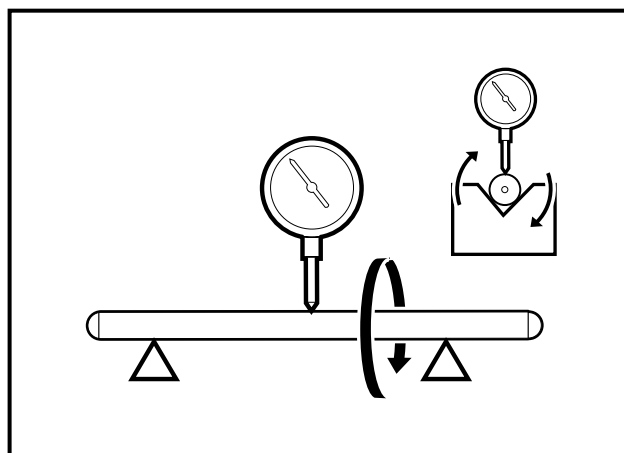

Figure 2-30 Measure Push Rod Bend
1. Support the rod in V-blocks at each end of rod. Position a dial gauge perpendicular to the rod (**Figure 2-30, Page 2-16**).